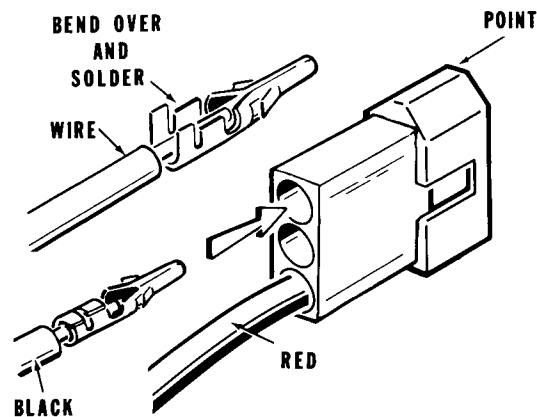

Figure 4
- 2) Refer to Figure 4 and solder a male terminal pin to one end of the red stranded wire.